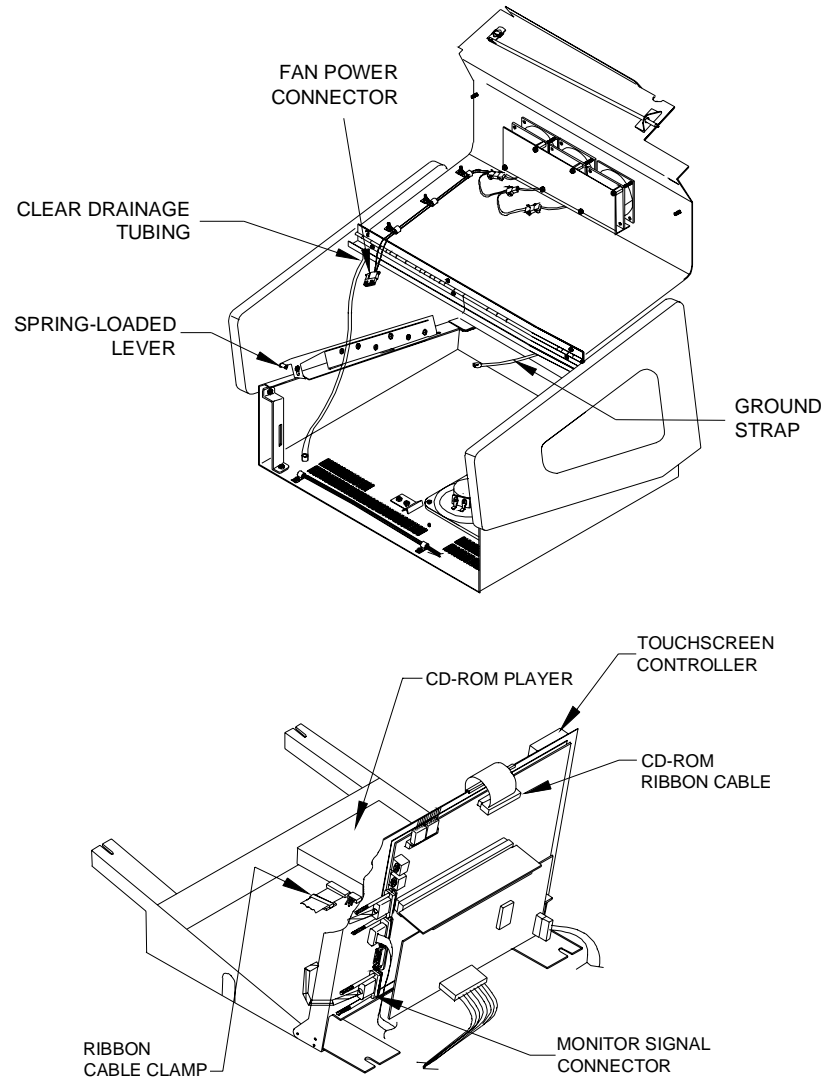

FIGURE 21 - INTERNAL VIEW WITH MONITOR ASSEMBLY REMOVED
8. Disconnect the fan power connector and ground strap. See Figure 21.